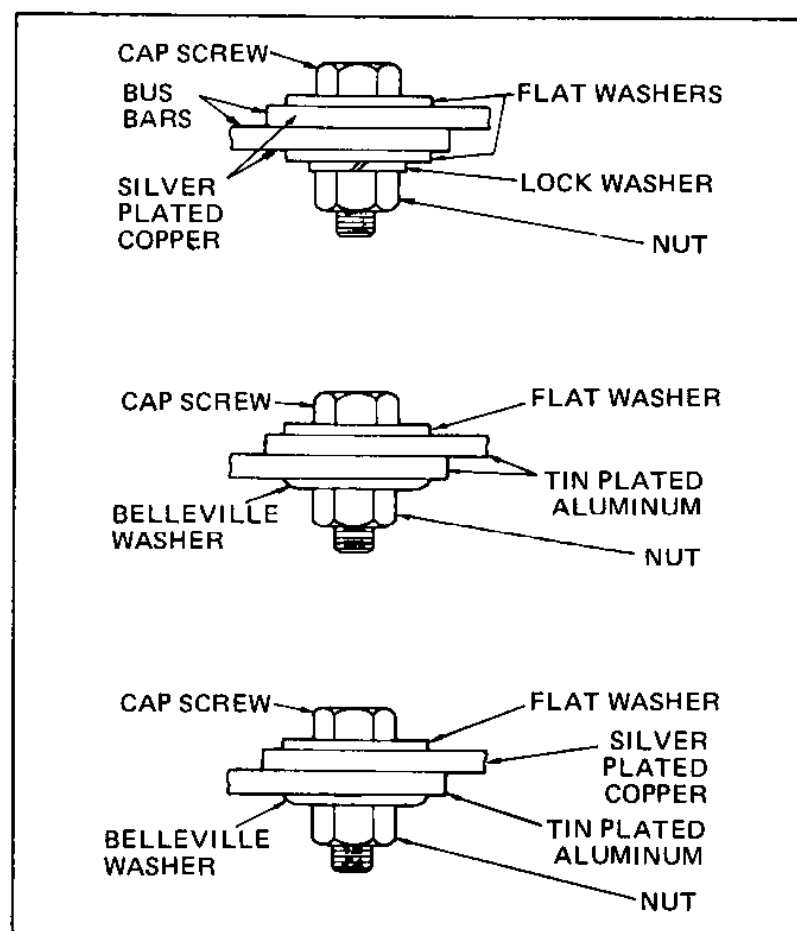

Figure 47. Bus Bar Joint Assembly
2. Assemble all joints as shown in Figure 47.
Notice in Figure 47 heavy washers are used on both sides of the bus bar joint — under the cap
4. The cap screws used in making up bus joints are heat treated, SAE Grade No. 5. Tighten these .50" screws to within a torque range of 50-75 ft-lbs. (If special hardware is required by an order, other torque values will be supplied with the field assembly drawings). In most cases, the direction in which the bolt is inserted through the bus joint is important. In the case of 5 kv switchgear, where connector caps are used for insulation, the hardware should be arranged to provide the best clearance to the connector cap. This normally would be with the nuts on the bottom of phase 3 and on the top of phases 2 and 1. On 15 kv switchgear, where insulation boots are used, put the nuts on the side with the deepest boot cavity. This normally would have the screw heads toward the back of the cubicle. Arrange the hardware as shown in Figure 47 with a round washer on each side of the joint and a lockwasher between the round washer and the nut. The only exception to this arrangement occurs when aluminum bus is used. In this case one "Belleville" spring washer replaces the round washer and the lockwasher under the nut with the concave side against the bus joint. When using 2000A and 3000A